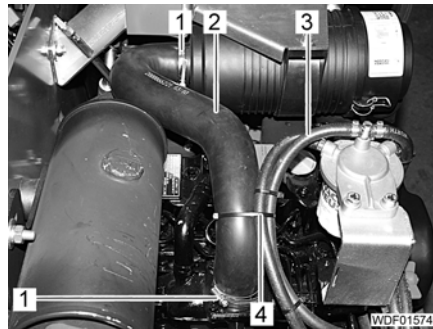

Fig. 168 Moulded hose
- Remove the cable ties (Fig. 168,4).
- Slacken 2 hose clamps (Fig. 168,1).
- Remove moulded hose (Fig. 168,2).
- Attach new moulded hose (Fig. 168,2) with hose clamps to the connections on the engine and on the air filter case.
- Tighten 2 hose clamps (Fig. 168,1).
- Fix fuel lines (Fig. 168,3) to the moulded hose using cable ties (Fig. 168,4).